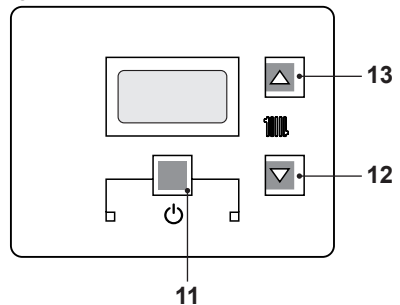
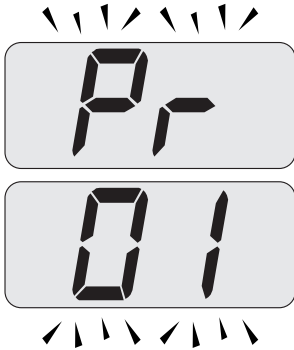
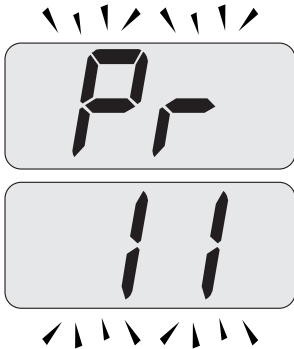
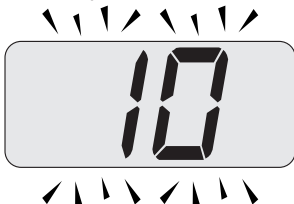

Fig. 7.27
Fig. 7.28
Fig. 7.29
Fig. 7.30
- Enter in "programming mode" by pressing keys 11 - 12 - 13 (Fig. 7.27) for 10 seconds at the same time until the letters **Pr** that alternate with code **01** are displayed on the LCD display, indicating that "parameter 01" (Fig. 7.28) has been activated.
- Scroll the various parameters using keys 12 or 13 until the letters **Pr** that alternate with code **11** are displayed on the LCD display, indicating that "parameter 11" (Fig. 7.29) has been activated.
- Press keys 11 and 13 (Fig. 7.27) at the same time until the value of parameter 11 (10=60 seconds) (Fig. 7.30) is displayed on the LCD display .
- By pressing key 11 (Fig. 7.27) confirmation of the inserted value is obtained.
- Press keys 11 and 12 (Fig. 7.27) at the same time to exit without changing the value (return to the parameters list Fig. 7.29)
- Press keys 11 - 12 - 13 (Fig. 7.27) at the same time for 10 seconds to exit the "programming mode".